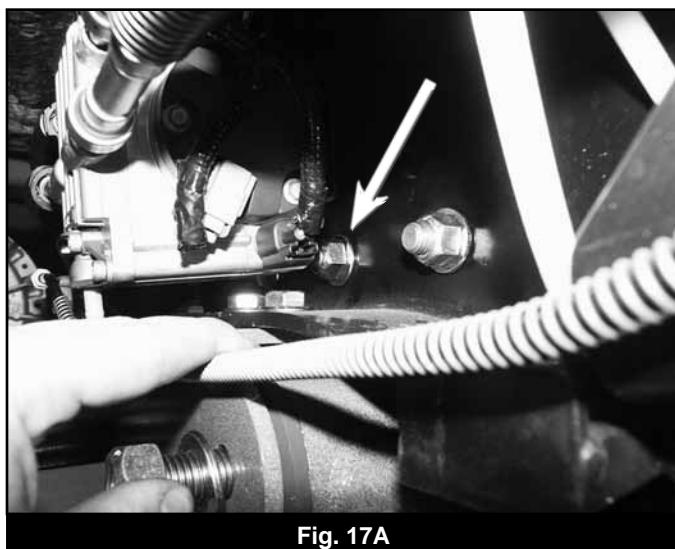

Fig. 17A
40. Repeat the frame bracket and control arm installation procedure on the driver's side of the vehicle. When mounting the new bracket, use a $\frac{1}{2}$ " x 1" bolt in the 2nd (from the front) outside mounting hole (Fig 17A). This shorter bolt is necessary to properly clear the fuel module when it is reinstalled. Note: Use the nut that was removed from the radius arm-to-frame bolt for the upper control arm-to-axle mount bolt when installing the new control arm. The OE nut in this position is welded to the radius arm.